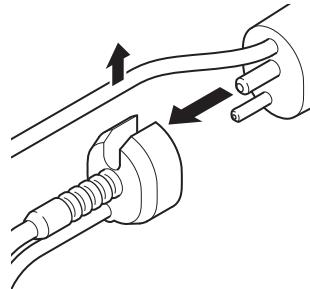

Figure 113 – Handpiece Tubing Connector Disconnection
3. Disconnect the handpiece tubing connector of the irrigation suction cassette from the handpiece (Figure 113).